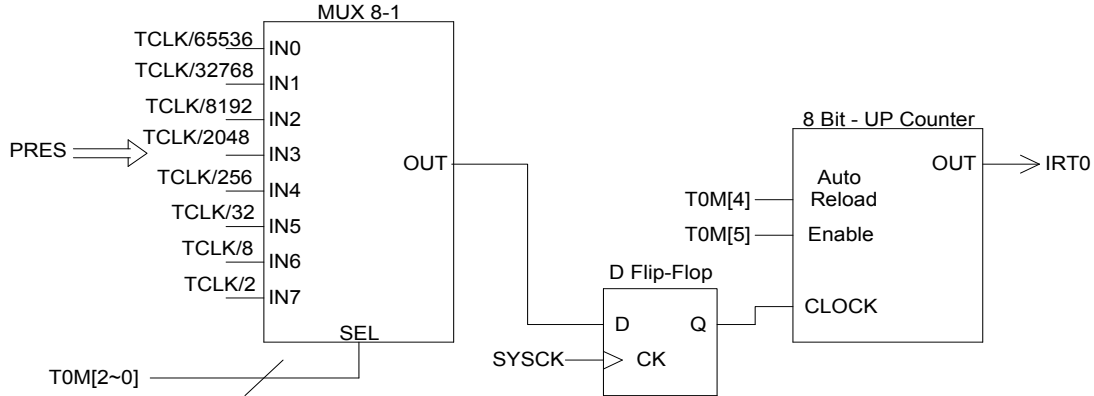

FIGURE 10-3: Timer0 Structure Diagram
10.3.1 Timer0 descriptionThe Timer0 is an 8-bit up counter. It can be used as a timer or an event counter. **T0C(\$25)** is a real time read/write counter. When an overflow from \$FF to \$00, a timer interrupt request IRT0 will be generated. Timer0 will stop counting when system clock stops. Please refer to FIGURE 10-3: .